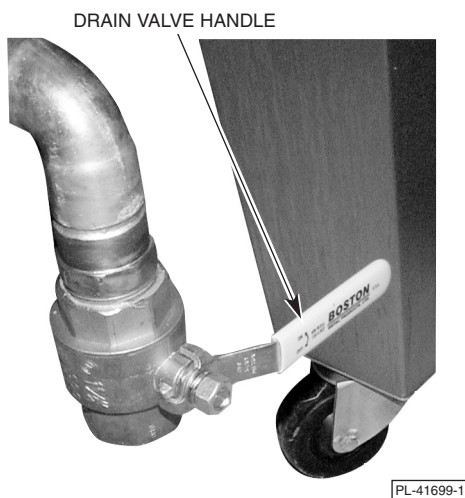

Fig. 13
- Close drain valve handle (Fig. 13).